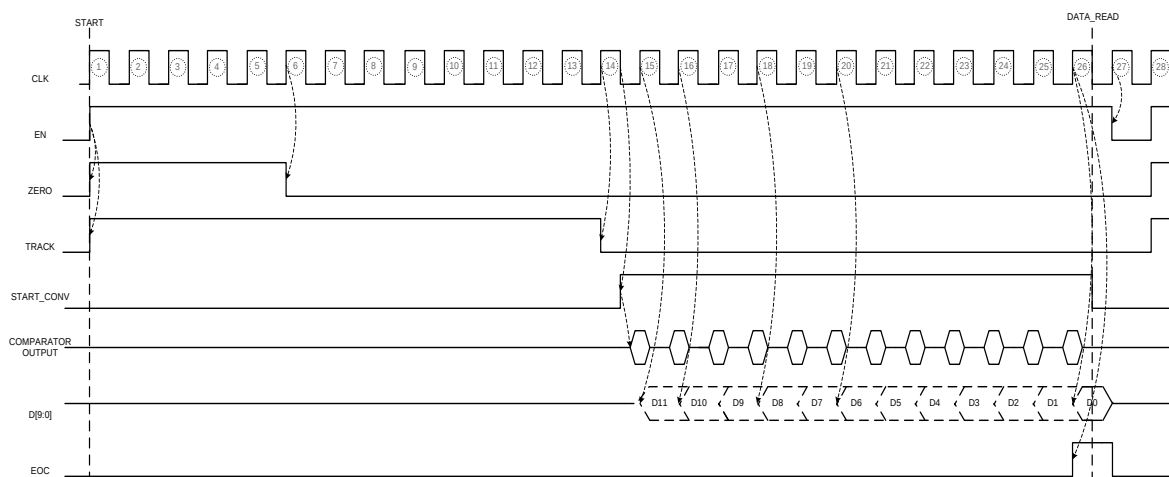

Figure 8: Track and Hold Sequence Timing Diagram
The implemented track and hold circuit ensures a stable voltage on the input of the SC ADC during the conversion. Figure 8 shows the polarity and the timing of the external and the internal signals controlling the track and hold sequence of the converter. The clock ($f_{CLK} = 0.5 \text{ MHz}$) and the enable signal (EN) are provided by the main PM control logic while all the other signals are internally generated. The timing diagram illustrates a tracking period of 13 clock cycles, (26 μs inclusive of 10 μs auto-zero time) and a conversion period of 24 μs , hence a total ADC conversion cycle of 50 μs .